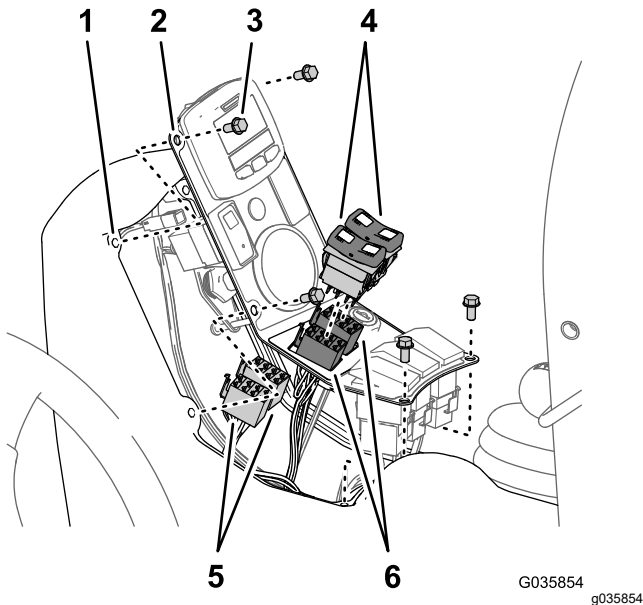
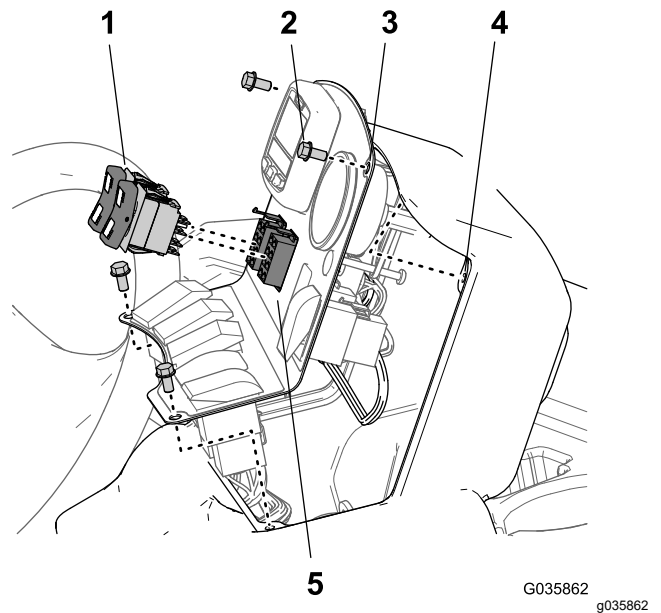

Figure 36
Figure 37
1. Remove the 4 flange-head bolts (1/4 x 1/2 inch) that secure the switch panel to the center console, and lift the panel (Figure 36 or Figure 27).
2. Disconnect the 8-socket connectors of the machine-wire harness from the boom-lift switches (Figure 36 or Figure 37).
3. Connect the rocker switches into the 8-socket connectors of the wiring harness for the ultra sonic boom finishing kit (Figure 36 or Figure 37).
5. Align the holes in the switch panel with the frame of the console (Figure 36 or Figure 37).
6. Secure the side cover on the center console with the 4 flange-head bolts (1/4 x 1/2 inch) (Figure 36 or Figure 37) that you removed in step 1.